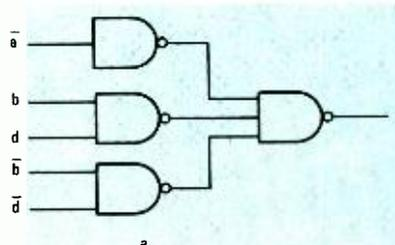

FIG. 8—LOGIC CIRCUIT is derived from reduced Karnaugh map and is shown in a. Inverter can be eliminated as shown in b.
- 8) Feed each term into a NAND gate, and feed the outputs of the NAND gates to another NAND gate. The circuit is complete. See Fig. 8-a.
Note that Fig. 8-a has  $\bar{a}$  as an input that simply gets inverted before going to the output gate. Instead of this, it would be simpler to feed  $a$  directly to the output gate, as in Fig. 8-b. Also note that the